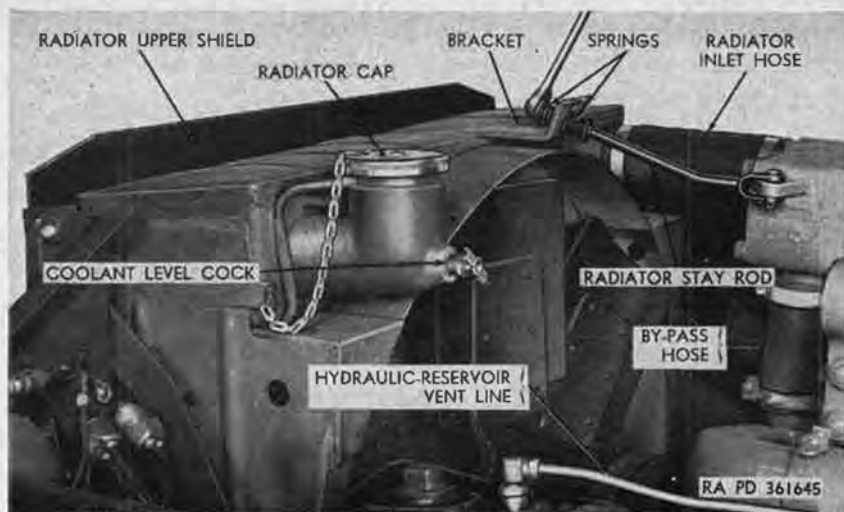

Figure 162. Left rear view of upper section of radiator.
b. Radiator. The radiator (fig. 130), which is vertically mounted forward of the engine, consists of a fan-and-tube-type core with drain cock and a tank with pressure-type filler cap (fig. 162), coolant level cock, and overflow tube. The bottom of the radiator is secured to the engine front mounting support (fig. 130) by two bolts and nuts, and the top of the radiator is secured in the vertical position by a stay rod (fig. 162) connected to the radiator and the front of the thermostat housing.
b. Air Suction Test. Bring level of coolant to level cock (fig. 162) of radiator. Drain out three pints of coolant to prevent overflow during test. Be sure radiator cap is in good condition and will make an air-tight seal. Attach a length of rubber tubing to the lower end of overflow tube (fig. 130), making sure that this connection is air tight. Run engine until temperature gage stops rising and remains stationary. Without changing engine speed, place end of rubber tubing in a bottle of water. Be sure there are no kinks or sharp bends in the tubing to restrict air flow. Watch for bubbles in the water. Bubbles indicate that air is being drawn into the cooling system. Correct condition by tightening cylinder-head bolts, water pump mounting bolts, hose clamps, and all fittings. Examine all hose carefully, and if cracked, swollen, or deteriorated in any way, replace hose.
Caution: Do not pour cold water into cooling system when engine temperature is above 200° F. Also, cold water poured into cooling system, regardless of engine temperature, will close thermostats and not allow engine water jackets and passages to completely fill. Whenever filling system with cold water, always run engine until normal operating temperature is reached (thermostats open), then add water until coolant reaches coolant level cock (fig. 162).
- (1) *Drain system.* Run engine at fast idle until normal engine temperature (at least 165° F) is reached to stir up any loose rust, scale, et cetera. Stop engine. Remove radiator cap (fig. 162), open radiator drain cock (fig. 130) and crankcase drain cock (fig. 131), and allow cooling system to drain.
- (6) *Fill system.* Close radiator and crankcase drain cocks; then fill system to suit climatic conditions as follows: if above 32° F., almost fill the system with clean fresh water (soft if possible) and add a corrosion inhibitor; then fill with water until coolant level is evident at level cock (fig. 162). If there is a possibility that climate below 32° F. will be encountered, fill system about one-third full, add antifreeze enough for the lowest expected temperature (table V, par. 328); then fill until coolant is evident at level cock. Install radiator cap, start engine, and run it at a fast idle until temperature gage shows normal operating temperature; then stop engine and check coolant level, adding water as necessary.
- (7) *Rust preventives.* The cooling system must be free of rust and scale to maintain efficiency of the system. Use of inhibitors or rust preventives reduces or prevents corrosion of metals and prevents formation of scale. Inhibitors are not cleaners and do not remove rust or scale already formed. Treating the cooling system with an inhibitor consists of adding an inhibitor to the coolant. The inhibitor should be re-
- (1) Remove brush guard (par. 114c(2)).
- (2) Drain cooling system (par. 134d).
- (3) Loosen self-locking nut at front end of radiator stay rod (fig. 162), and pull front end of stay rod upward and remove from slotted bracket on top of radiator.
- (4) Loosen front clamp on radiator inlet hose (fig. 162).
- (6) Loosen two nuts and bolts securing radiator upper shield (fig. 162) to the left and right headlight support brackets, and pull upper shield forward and remove from brackets.
- (4) Slide rear end of radiator-outlet-hose elbow over end of water-pump water inlet, and tighten hose clamp.
- (5) Spread the two washers between the springs (fig. 162) on front end of radiator stay rod and slide rod into slot in bracket at top of radiator. Tighten self-locking nut on end of stay rod but do not tighten enough to completely compress springs.
- (6) Slide slotted ends of radiator upper shield (fig. 162) under head of bolt and lockwasher on left and right headlight support brackets, and tighten nuts and bolts.
- (7) Slide front end of radiator inlet hose (fig. 162) on radiator inlet, and tighten hose clamp.
- (8) Install brush guard (par. 115f(2)).
- (9) Fill cooling system (par. 134d(6)).
- (e) Loosen front hose clamp on radiator inlet hose (fig. 162) and tilt upper end of radiator forward.
- (c) Slide front end of radiator inlet hose (fig. 162) on radiator inlet, and tighten hose clamp.